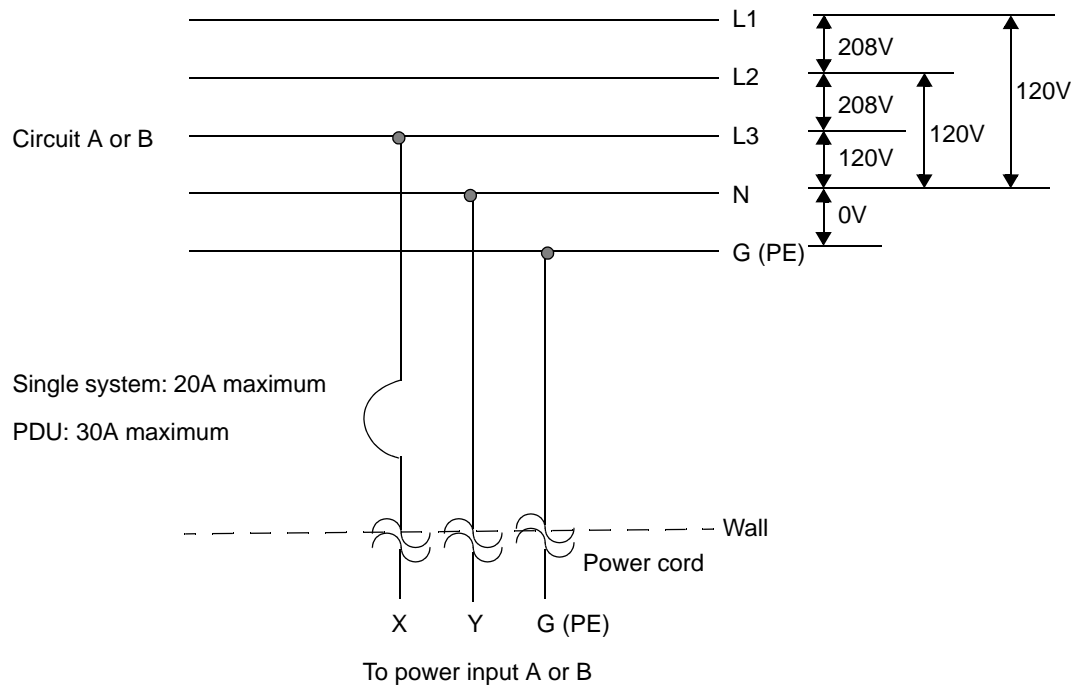

Figure B-5. Three-Phase 208-VAC, Y-, or Δ -Source Circuit Connection, Phase-to-Neutral
- Figure B-5 illustrates a three-phase 208-VAC, Y-, or Δ -source circuit connection, phase-to-neutral.
Figure B-5 illustrates a three-phase 208-VAC, Y-, or Δ -source circuit connection, which is a phase-to-neutral source connection. Note that the ftServer system X input can be connected from L1, L2, or L3. This application requires a single-pole circuit breaker.